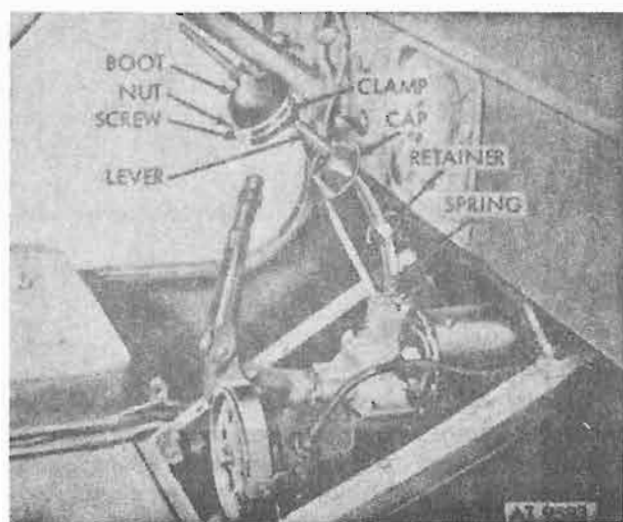

Figure 4-14. Gear shift lever.
(6) Loosen screw and nut on clamp and remove gearshift boot (fig. 4-14). Unscrew cap and remove gearshift lever, retainer, and spring. Tape clean rag over gearshift opening.